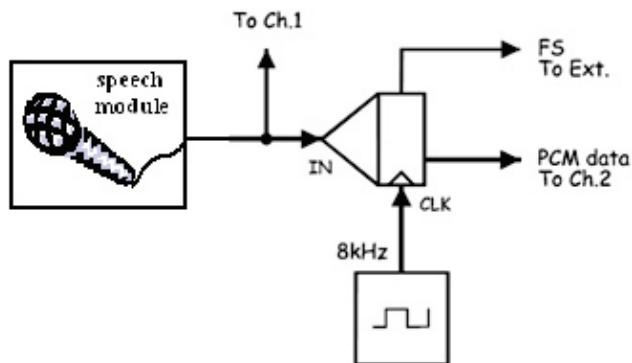

Figure 18: PCM encoder-Speech message.
- Modify the setup as shown in Figure 18 below.